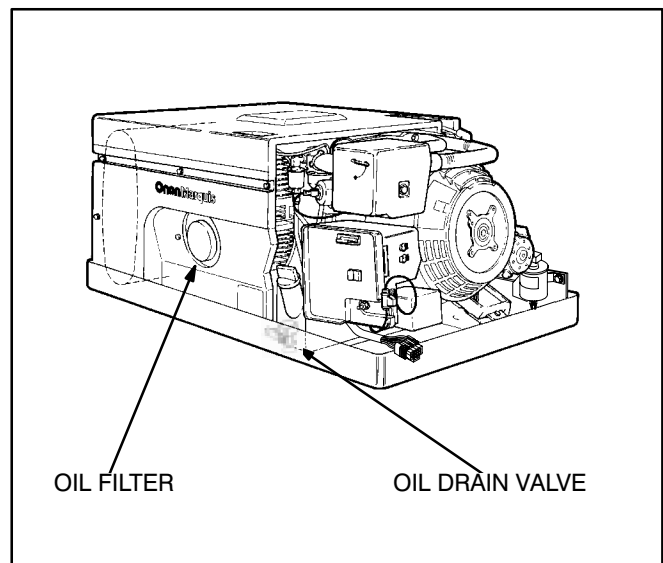

FIGURE 11. OIL DRAIN PLUG AND OIL FILTER
3. Open the oil drain valve (Figure 11) and allow all of the oil to drain from the engine.
5. Spin off the oil filter canister (Figure 11), drain it of oil and discard it according to local regulations.